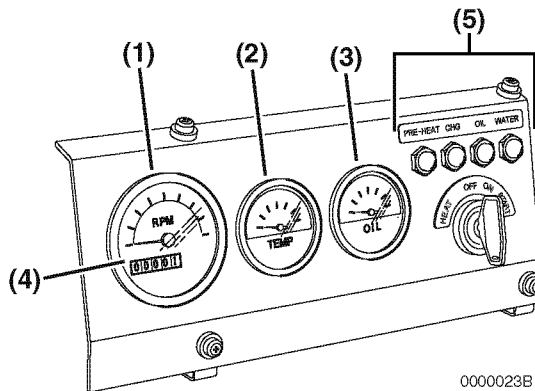
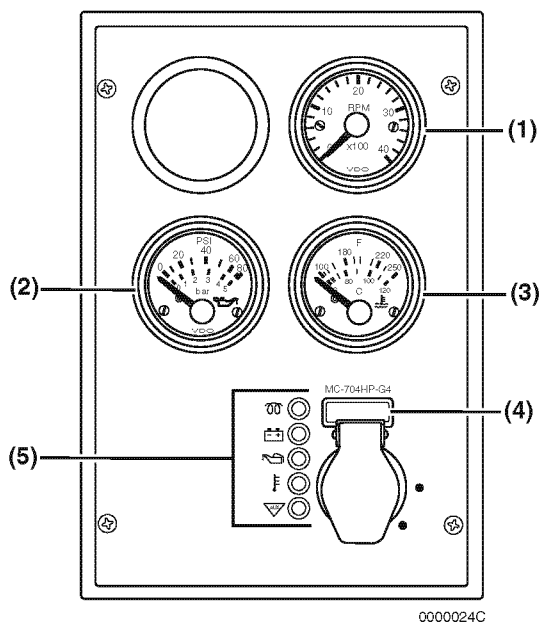

Figure 4
Figure 5
1. While the engine is running, check the gauges for normal indications. The gauges shown in **Figure 5** and **Figure 4** are provided for illustrative purposes only.
- **Tachometer (Figure 5, (1)) or (Figure 4, (1))** - Make sure the engine speed is within normal limits. See *Engine Speed Specifications on page 112*.
- **Engine Oil Pressure (Figure 5, (2)) or (Figure 4, (3))** - Make sure the engine oil pressure is within normal limits. See *Principal Engine Specifications on page 113*.
- **Engine Coolant Temperature (Figure 5, (3)) or (Figure 4, (2))** - Make sure the engine coolant temperature is within normal limits.
- **Hour Meter** - The hour meter display (**Figure 5, (4)**) or (**Figure 4, (4)**) shows the total number of hours the engine has run. This is useful for planning periodic maintenance operations. See *Periodic Maintenance Schedule on page 69*.
2. After the engine has reached operating temperature, all of the indicators (**Figure 5, (5)**) or (**Figure 4, (5)**) should be off. If any of the indicators are on, shut down the engine and have the necessary repairs performed.